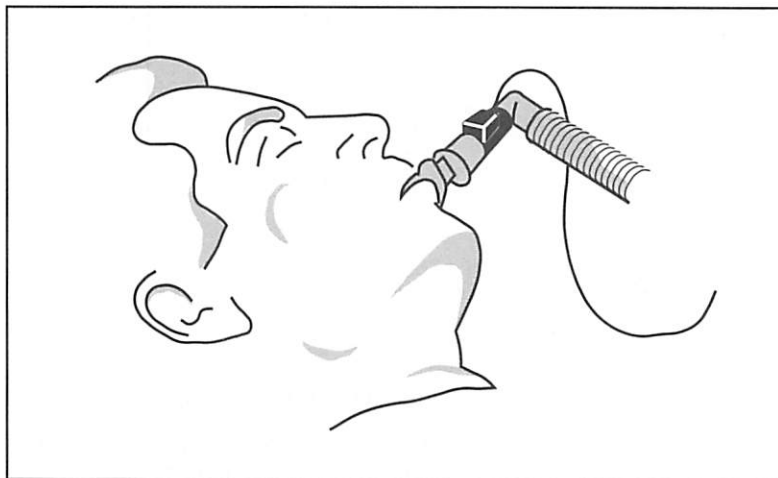

Figure 2-41. Positioning CO₂ sensor on top
When attaching the airway adapter in the next steps, position the adapter so that the sensor is on top as shown in Figure 2-41 to avoid fluid collection in the sensor airway slot. Any concentration of fluids here can cause inaccurate CO₂ readings.
- 5 Gently push and twist the **larger** end of the adapter onto the patient's tracheal or endotracheal tube (see Figure 2-41).
- 6 Gently push and twist the **smaller** end of the adapter onto the ventilator circuit tubing (see Figure 2-41).